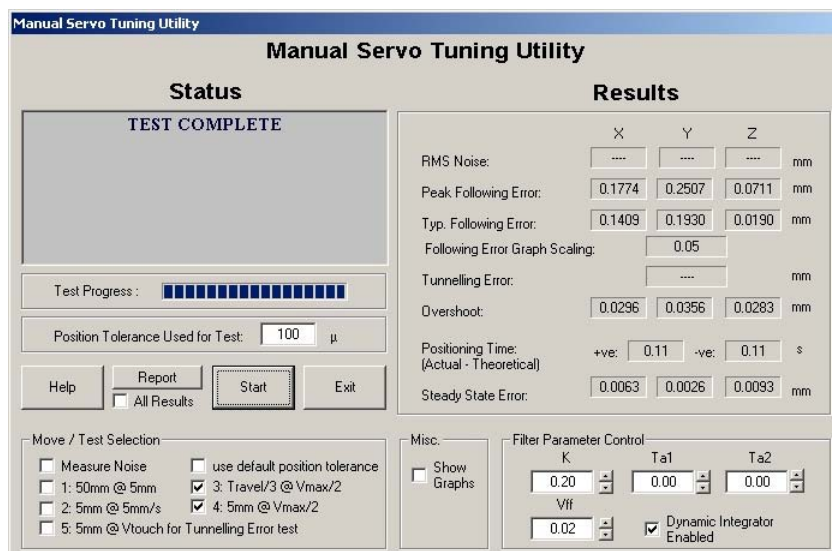

Figure 29
- Increasing Vff further will reduce following error, however if too much is applied overshoot will increase to excessive levels and the machine may become unstable whilst performing the point to point moves. Some experimentation in the Vff value will be required. Figure 29 below shows the effect of applying too much Vff. Although the following error has reduced to a low value the amount of overshoot has increased significantly.